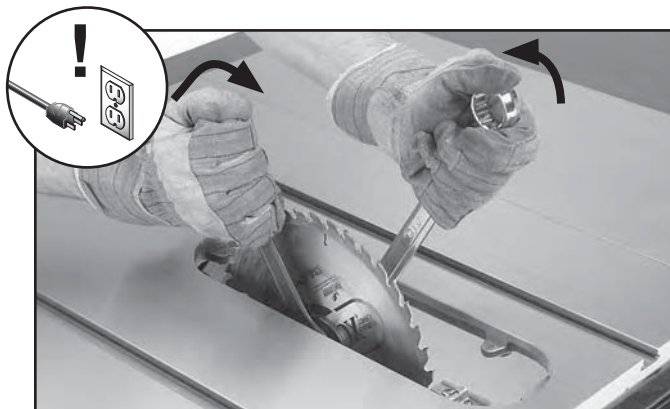

Figure 45. Example of securing blade.
5. Securely tighten the arbor nut and the flange against the blade using the wrenches included with the saw, as shown in **Figure 45**. DO NOT overtighten.